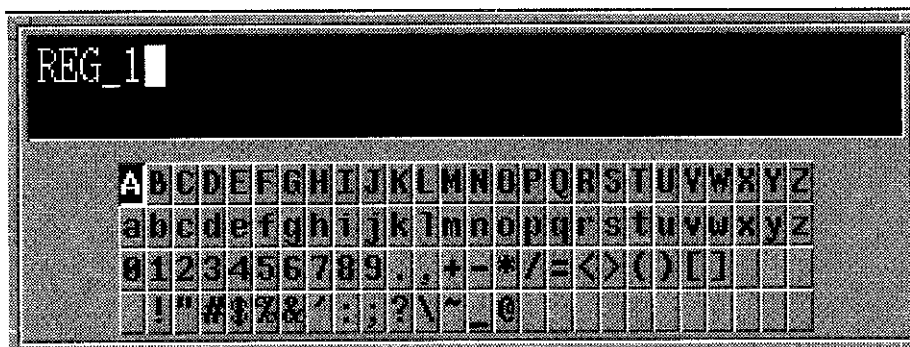

Figure 4-9 Label Window Display
- ① Press the **[SAVE]** to call the save menu.
- ② Press the **{SAVE REGISTER}** to call the save register menu.
- ③ Press the **{RENAME REG}** to display the label window and calls the name editing menu.
- ④ Name editing menu
{EDIT NAME} : Displays the label window (Figure 4-9) and calls the character editing menu. (See step ⑤.)